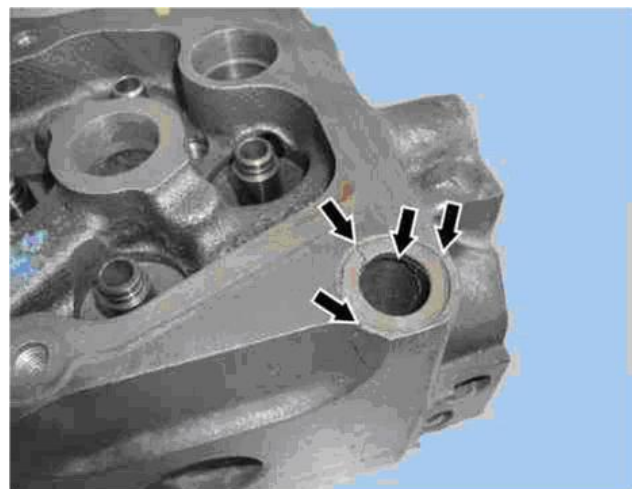

Figure 3
4. Check cylinder head in the area of the bores and contact surfaces of the cylinder head bolts for cracks (Figure 3). Visible cracks always appear in conjunction with grooves around the cylinder head bolt bores and more frequently, on the exhaust manifold side.
6. Check contact surfaces around the bores of the cylinder head bolts for grooves (Figure 3).